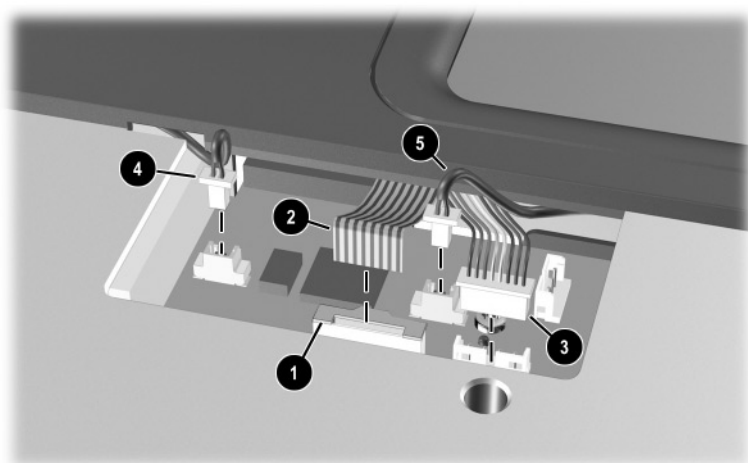

Figure 5-24. Disconnecting the Top Cover Cables
6. Release the ZIF connector **1** to which the TouchPad cable is connected and disconnect the TouchPad cable **2** from the system board (Figure 5-24).